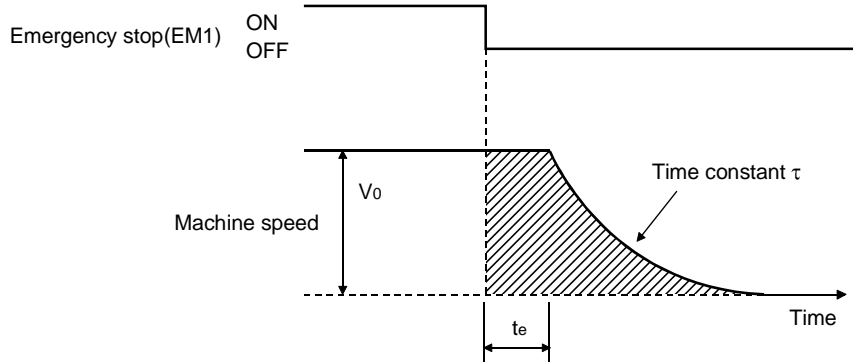
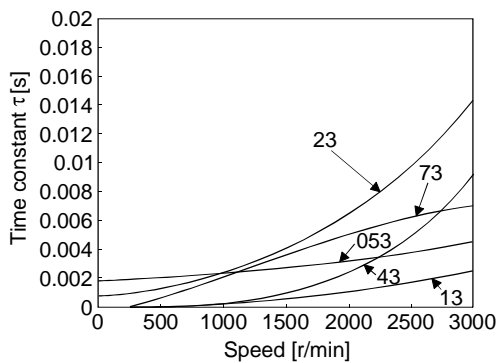

Fig. 9-4 Dynamic Brake Operation Diagram
Fig. 9-5 HC-MF Series Dynamic Brake Time Constant
At an emergency stop, the servo motor will decelerate to a stop in the pattern shown in Fig. 9-4. Here, the maximum coasting distance (during fast feed),  $L_{max}$ , will be the area shown with the diagonal line in the figure and can be calculated approximately with Equation 9-2. The effect of the load torque is greater near the stopping area. When the load torque is large, the servo motor will stop faster than the value obtained in the equation.
When an alarm, emergency stop or power failure occurs, the dynamic brake is operated to bring the servo motor to a sudden stop. Fig. 9-4 shows the pattern in which the servo motor comes to a stop when the dynamic brake is operated. Use Equation 9-3 to calculate an approximate coasting distance to a stop. The dynamic brake time constant  $\tau$  varies with the servo motor and machine operation speeds as indicated in Table 9-3 and as shown in Fig. 9-5 to 9-11.
- $\tau$  : Brake time constant (Fig. 9-5 to 9-11 · Table 9-3) [s]
- te : Delay time of control section (Fig. 9-5) [s]